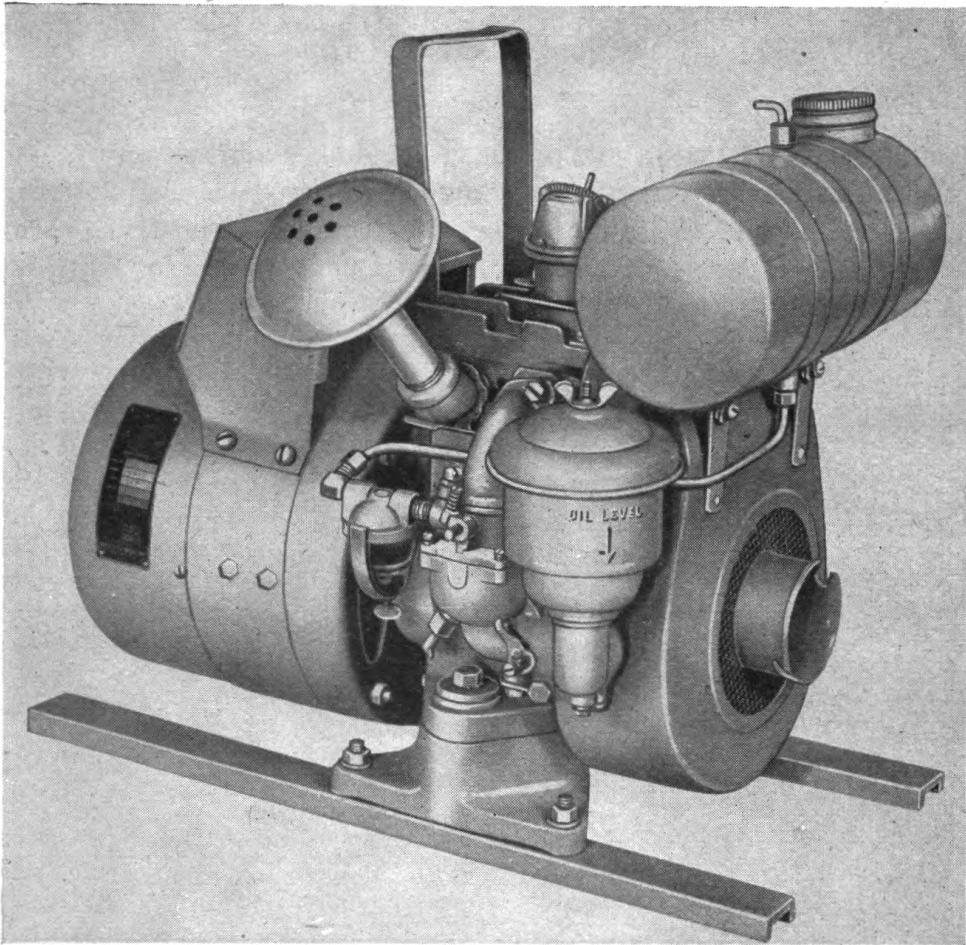

Figure 11. Portable gasoline motor generator unit.
b. LAMP, OPERATING, FIELD, GENERATOR. A portable gasoline motor-generator unit, as shown in figure 11, is used as an emergency power source and listed as Medical Department Item No. 9931700 Lamp, operating, field, generator. TM 8-626 covers the operation and maintenance of this generator.